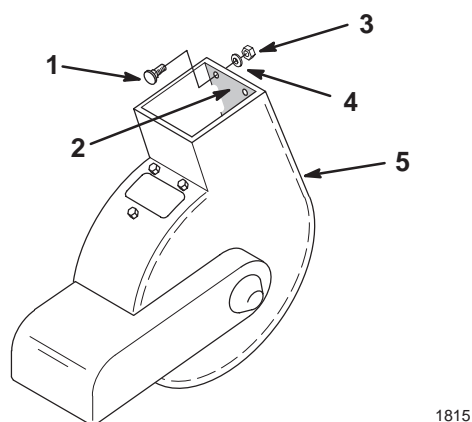

Figure 20
1. Remove the adaptor from the blower. Remove the five bolts and pull the wear strip from the blower (Fig. 20).
2. Clean the inside of the blower thoroughly. Slide the new wear strip inside the blower and install the three bottom bolts, washers and nuts (Fig. 20).
3. Push the wear strip tight against the blower and install the two (2) top bolts, washers and nuts (Fig. 20).
4. Check that the blower impeller clears the wear strip (Fig. 20).